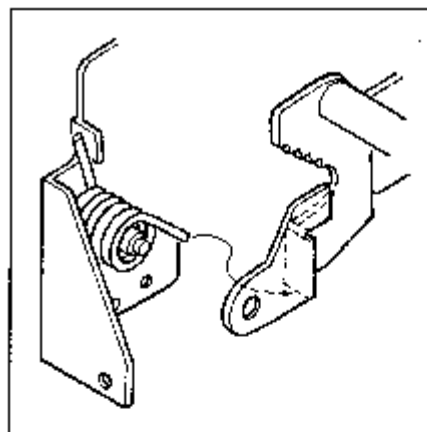

Fig. III-4
3. Frames L, R and Holder-Up Spring (Figs. III-4, III-3-A)
3-2 Reassembling (Fig. III-4)
1. Hook the holder-up spring as shown in the Fig. III-4.